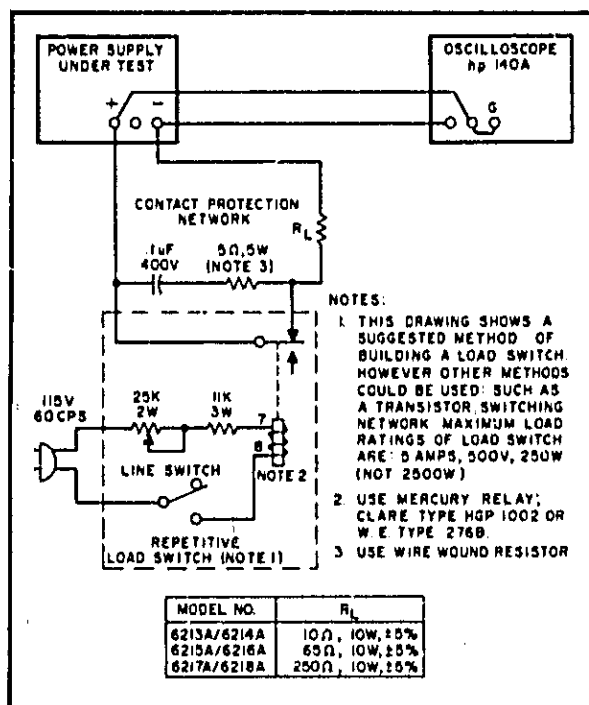

Figure 5-7. Transient Recovery Time, Test Setup
5-37 A mercury-wetted relay, as connected in the load switching circuit of Figure 5-7 should be used for loading and unloading the supply. When this load switch is connected to a 60Hz AC input, the mercury-wetted relay will open and close 60 times per second. Adjustment of the 25K control permits adjustment of the duty cycle of the load current switching and reduction in jitter of the oscilloscope display.
5-38 The maximum load ratings listed in Figure 5-7 must be observed in order to preserve the mercury-wetted relay contacts. Switching of larger load currents can be accomplished with mercury pool relays; with this technique fast rise times can still be obtained, but the large inertia of mercury pool relays limits the maximum repetition rate of load
- Connect test setup shown in Figure 5-7.